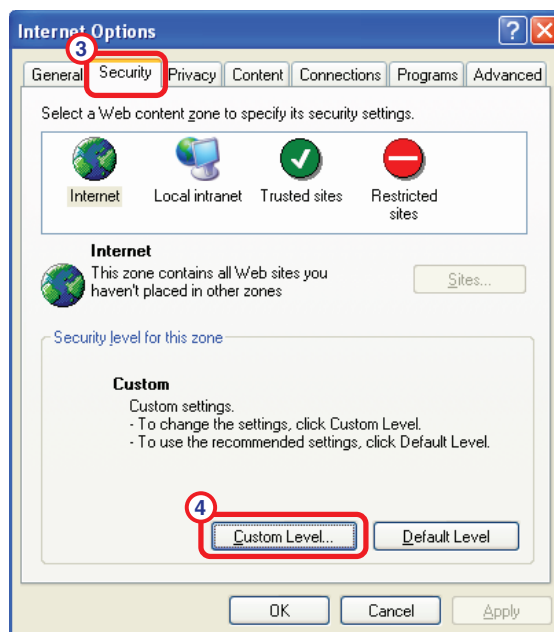

Figure 117. Security Options
3. To enable JavaScript, select the **Security** tab (see figure 117).